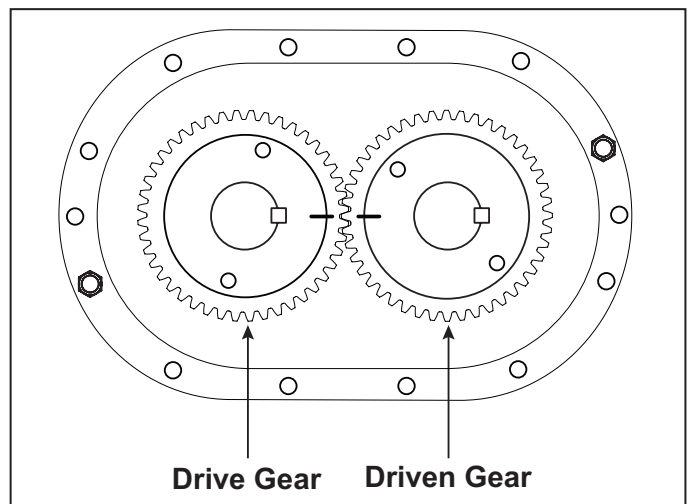
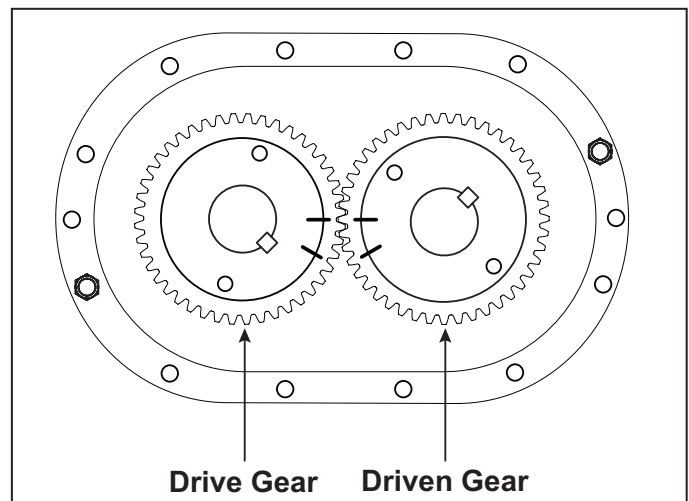

Figure 6A - Keyways in line and timing marks matched
Figure 6B - Timing marks advanced 3 teeth
- a. Align timing marks on gears (Figure 6A). Rotate drive gear clockwise approximately three teeth and mark a matching reference line on each gear as shown in Figure 6B. This gear position is necessary so rotors will clear and not jam. Do not allow the gears to move from the matched reference line while pulling. Use a light rocking motion to insure that the lobes have
- Insert gear keys [24] in their proper location and flush with top of shaft. Use the two keyways facing to the right. A tight fit is required. Coat shafts and keys with lubricant. Install drive gear (right hand helix) on drive rotor (left side). To install driven gear, align reference marks as shown in Fig. 6B. Install driven gear carefully to avoid damaging any teeth when engaging opposite gear. Secure with spacers [57], washers [25], and flat head Allen screws [29]. NOTE: All timing gears must be used in sets, as they are matched and serially numbered.